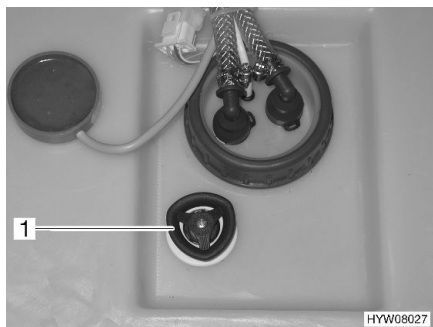

Fig. 99 Water tank with handle
- Turn the handle (Fig. 99,1) on the water tank in a clockwise direction as far as it will go.
- Turn the handle (Fig. 99,1) on the water tank in an anticlockwise direction as far as it will go. Excess water will drain away leaving approx. 20 litres in the tank.